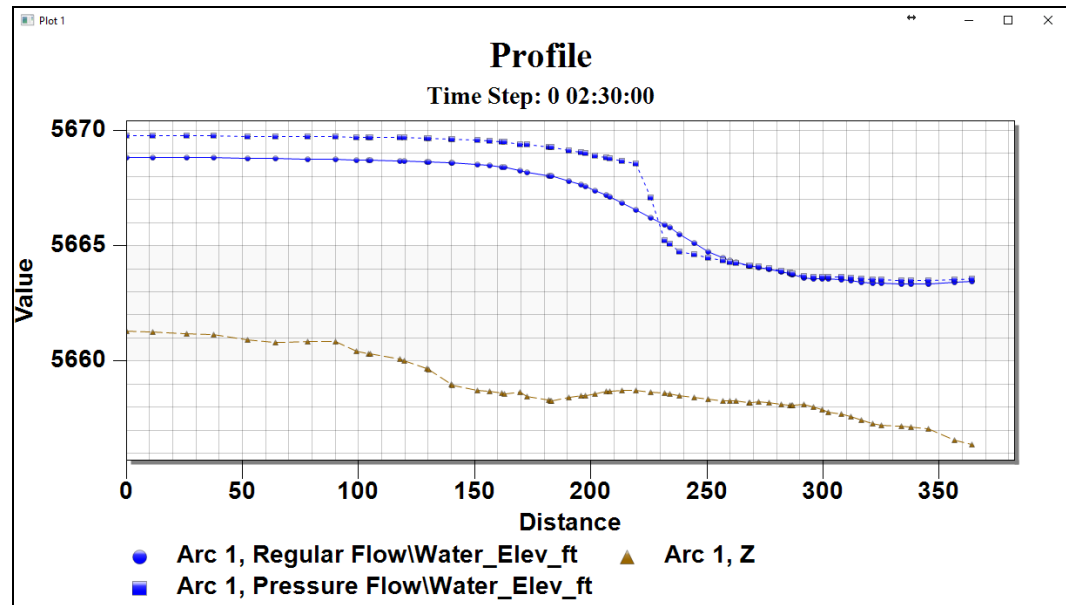

Figure 7 Water Surface Elevation Profile Plot
8. Select **Finish** to close the *Plot Wizard* dialog to generate the profile plot (Figure 7).